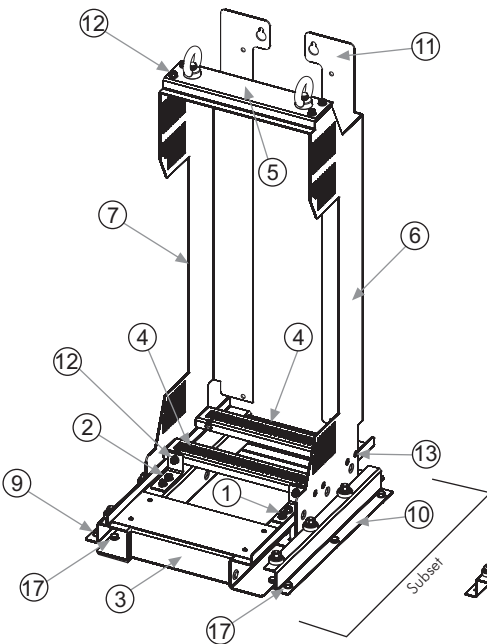
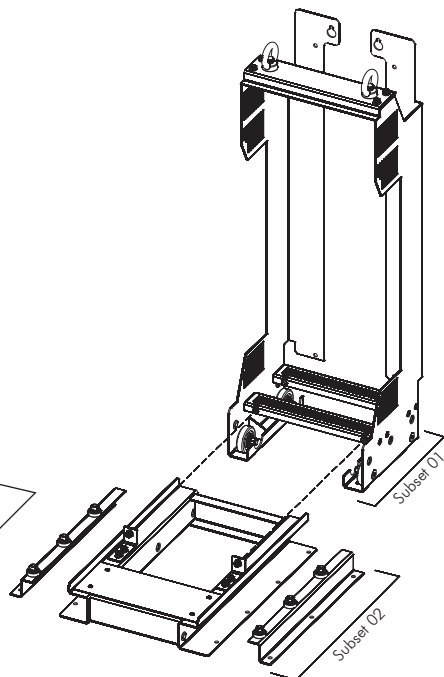
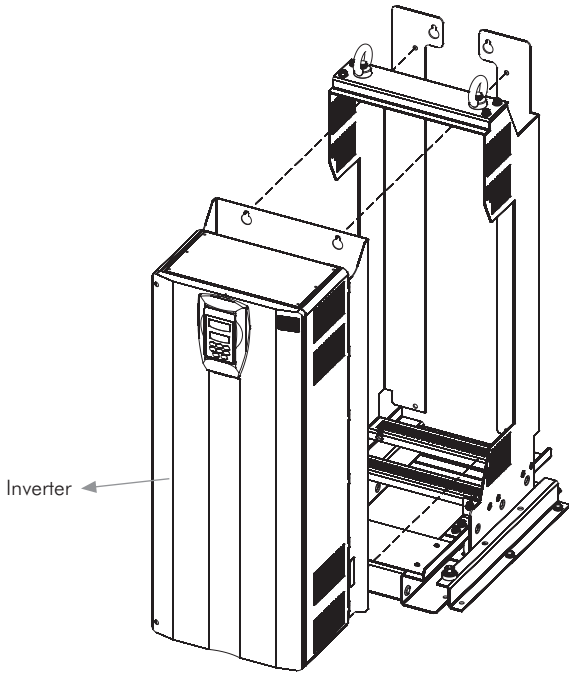
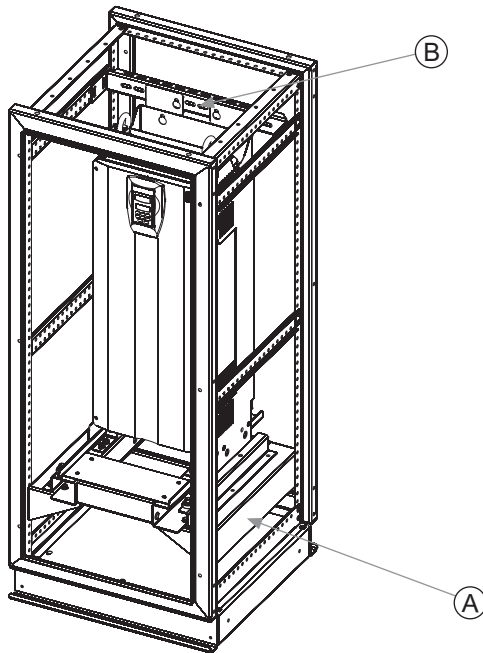

Figure 1: KME Kit Assembling Parts - Size 7
Figure 2: Mounting the subset 01 to the subset 02 - KME Kit - Size 7
Figure 3: Mounting the Inverter into the KME Kit - Size 7
Figure 4: KME Kit Mounting inside the panel - Size 7
- Step 1** Secure the left drive guide (6) and the right drive guide (7) to the course limiters (4) by using the M6x20mm (13) screws, figure 1;
- Step 2** Secure the lifting bolts support (5) to the left drive guide (6) and to the right drive guide (7) by using the M8x20mm (12) screws;
- Step 3** Insert the subset 01 drive guide to the subset 02 of the base guide for the bearings (3), figure 2;
- Step 4** Secure the left support (1) and the right support (2) to the base guide for the bearings (3) by using M8x20mm (12) screws;
- Step 5** Secure the course limiter (4) to the left bottom support (1) and to the right bottom support (2) by using the M8x20mm (12) screws;
- Step 6** Secure the Inverter Size 7 into the KME Kit, figure 3;
- Step 8** Secure the subset of the KME Kit to the mounting base (A), already assembled into the electrical panel by using the M8X1,25X16 (17) screws, figure 4;
- Step 9** Secure the lifting support (11) to the mounting support (B), already installed inside the electrical panel, figure 4;
- Step 10** Secure the right support (9) and the left support (10) to the mounting base (A) by using the M8x 1,25X16 (17) screws, figure 1 and 4.
- Electrical panel mounting support, named A and B in Figure 3, are not supplied with the KME Kit. These shall be designed and built according to the dimensions of the panel and with the specified holes. Refer to Figure 4.